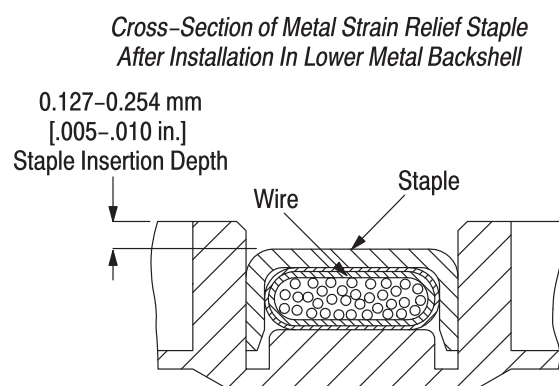

Figure 5
1. Refer to Figure 5 for the recommended staple insertion depth. For most cables, this depth will be sufficient to provide adequate strain relief. Some smaller diameter cables may require the staple to be inserted deeper in order to obtain the required strain relief. Inserting the staple too deeply will cause breakage of the cable conductors. Not inserting the staple deeply enough will result in inadequate strain relief for the cable.